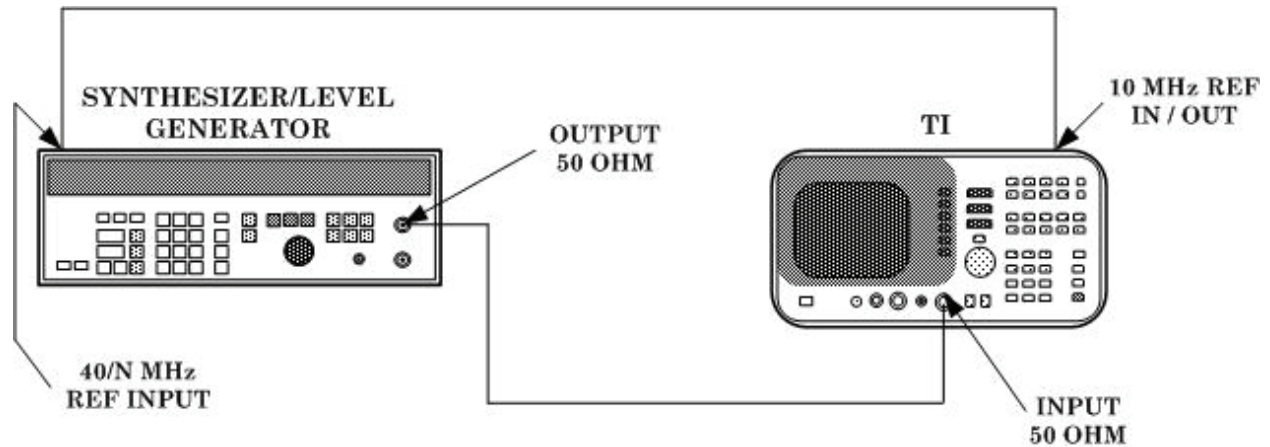

Figure 6. Frequency response - equipment setup.
(17) Set synthesized signal generator frequency to 10 MHz.
(18) Set measuring receiver to measure RF power in dBm at 10 MHz.
(19) Press TI **FREQUENCY** key then [**CENTER FREQ**] key and enter **10 MHz** using **DATA** keys.
(20) Press TI **SPAN** key then [**SPAN**] key and enter **10 kHz** using **DATA** keys.
(21) Press **MARKER PEAK SEARCH** key.
(22) Adjust synthesized signal generator level output for a TI **MKR** amplitude indication between -9.95 and -10.05 dBm. Measuring receiver indication will be within  $\pm 1.8$  dB of indication recorded in (7) above.
(23) Record measuring receiver indication.
(24) Connect equipment as shown in figure 6.